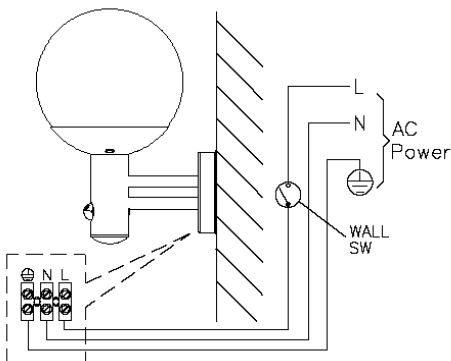

FIGURE 5
- (1) WARNING isolate the power supply.
- (2) An internal single pole wall switch is recommended to allow easy control of the Globe Light. FIGURE 5
- (3) Connect the supply cable to the unit. FIGURE 5 Strip approximately 6-8mm of inner core insulation from the supply cable.
- (4) Connect the BROWN wire (Live wire) to the terminal marked "L".